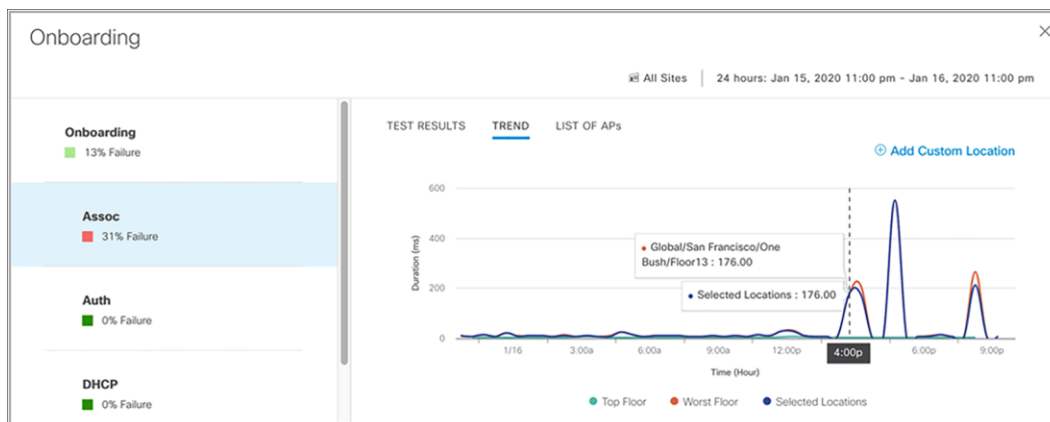

Figure 95.
- Click the Trend button within any of the sensor test drill-down views to see the test data for the past 24 hours (**Figure 95**).
- You can add additional locations to compare by clicking the Add Custom Location button when displaying a trend chart (**Figure 95**).